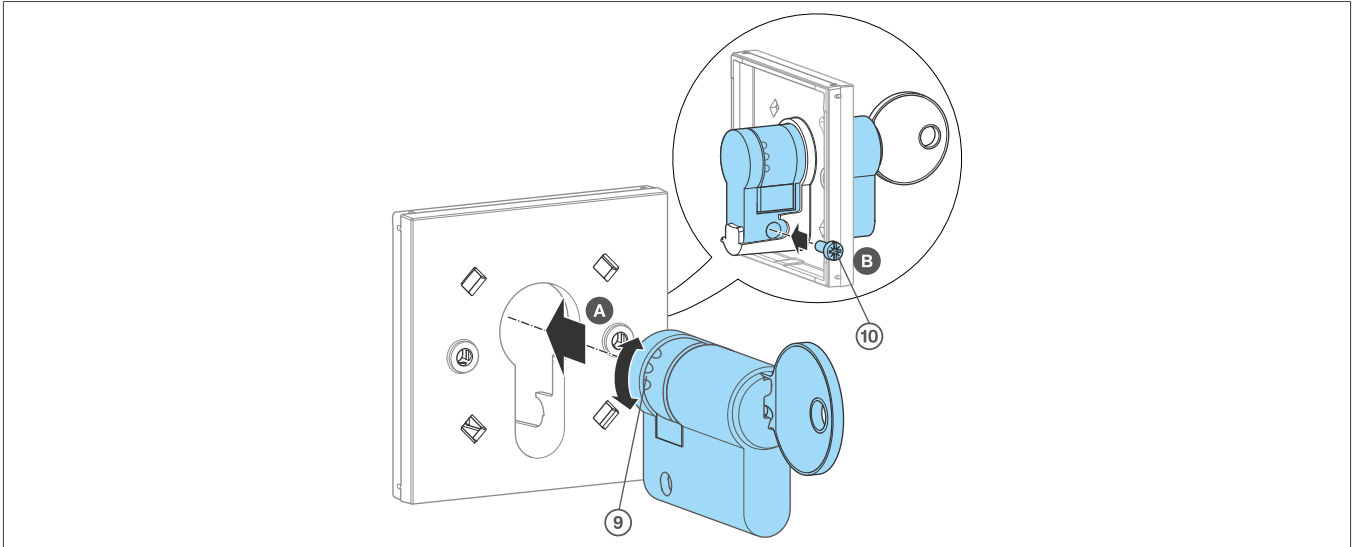

Fig. 6: Mounting the profile half-cylinder in the centre piece
- Push the locking pin (9) into the lock bit from the side and move the lock bit to the desired position (Fig. 6).
- 1 Turn the lock bit with the key to the 180° position and guide it from the front through the centre piece (3) (Fig. 6 A).
- 2 Connect the lock cylinder and the centre piece with screw (10) (Fig. 6 B).